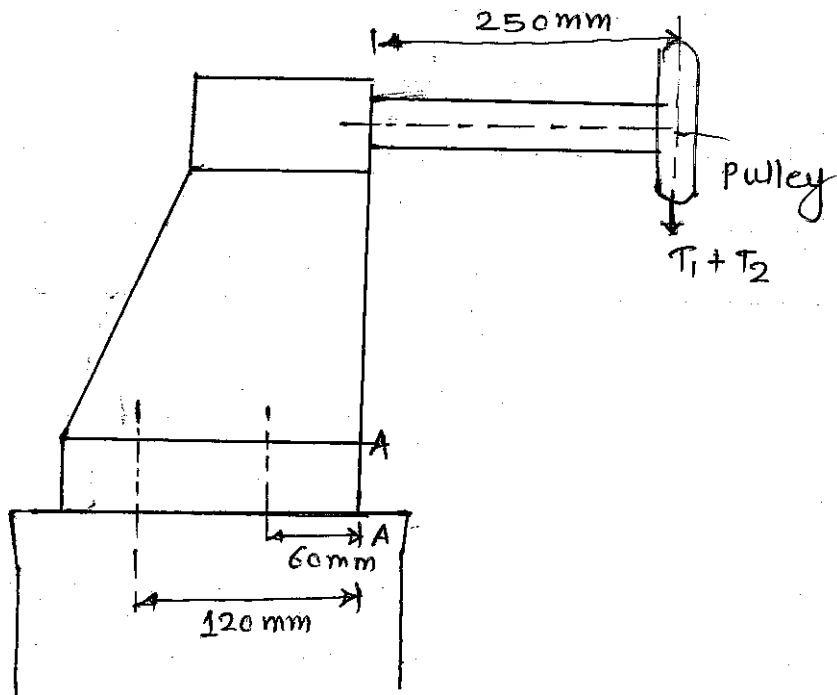

Fig. 2
- a) Fig. 2 shows a C.I. bracket to carry a shaft and belt pulley. The bracket is fixed to the main body by means of standard bolts. The tensions in the slack side and tight side are 5000 N and 10,000 N respectively. The safe stress for the bolt is 60 N/mm^2 . Determine the size of bolts. **8**